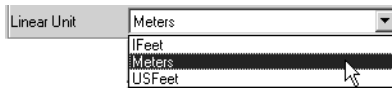

Figure 3-40. Linear Units List
- the Linear units (Figure 3-40).